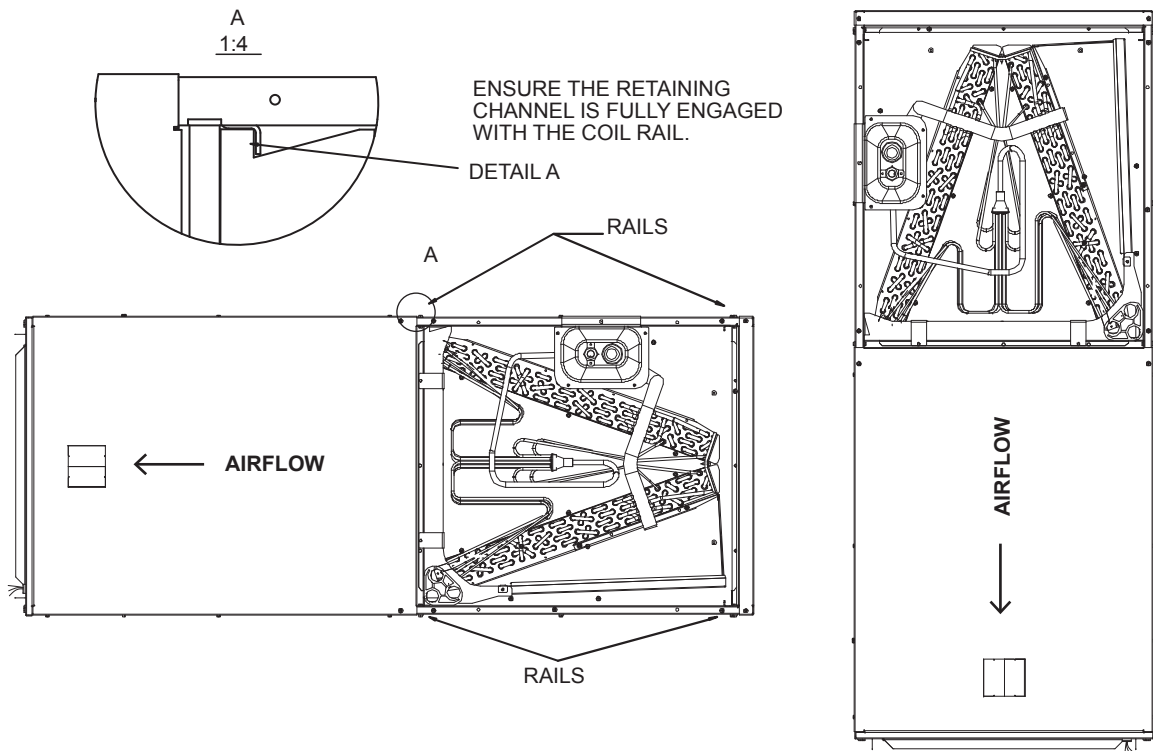

Fig.8 VERTICAL DOWNFLOW & HORIZONTAL LEFT APPLICATIONS
**Conversion to Vertical Downflow:** A vertical upflow unit may be converted to vertical downflow. Remove the door and indoor coil and reinstall 180° from original position. See Fig.8.
- Rotate unit into the downflow position, with the coil compartment on top and the blower compartment on bottom. See Fig. 8.
- Reinstall the indoor coil 180° from original position. Ensure the retaining channel is fully engaged with the coil rail. See Fig. 8.
- Low voltage control connections are made to low voltage pigtails extending from top of air handler (upflow position - see Fig.8).